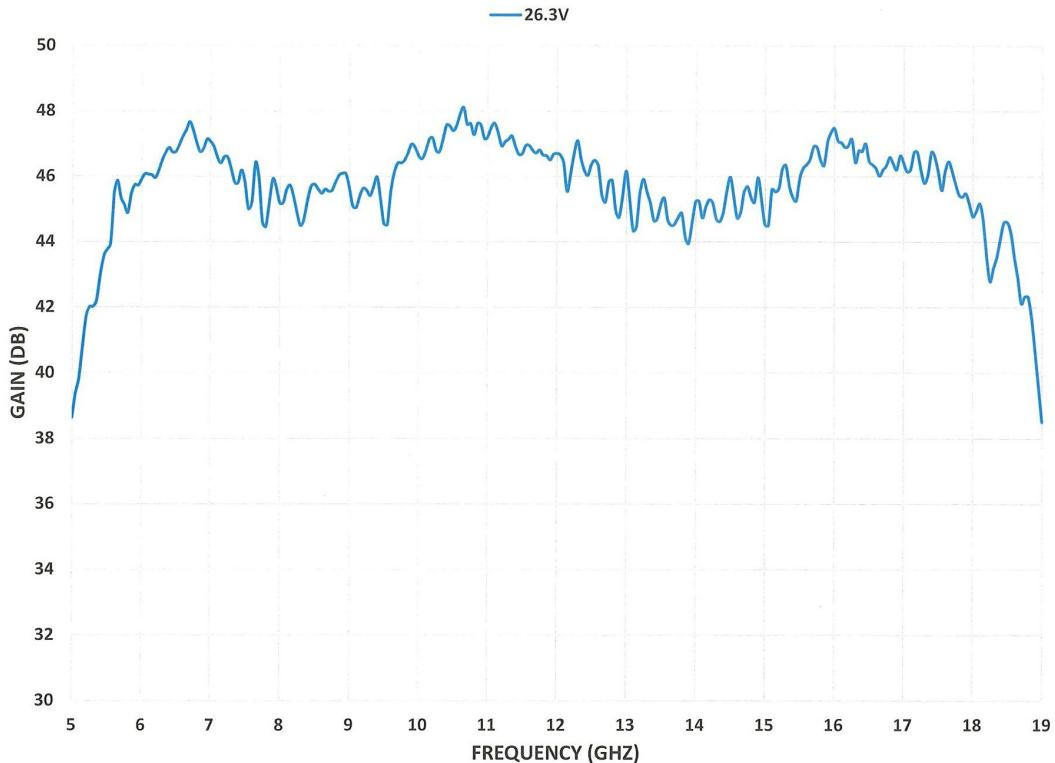
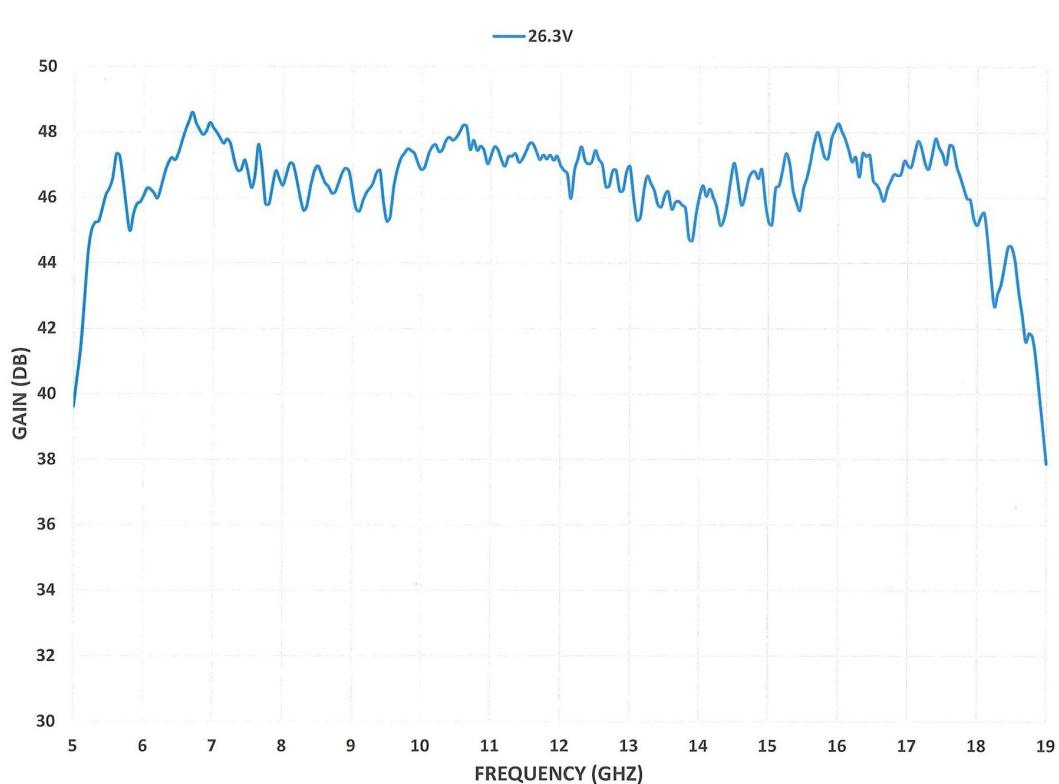

Figure 4-1. Typical Gain Response @ 0dBm input
Figure 4-2 Typical Gain Response @ -20 dBm Input
7. The Model 20S6G18A-L's typical gain response at 0dBm input and -20dBm input is shown in Figures 4-1 and 4-2. The actual gain may vary considerably from that shown in Figure 4-1, but should be ≥ 43.5 dB. Figure 4-2 should be ≥ 44.0 dB.